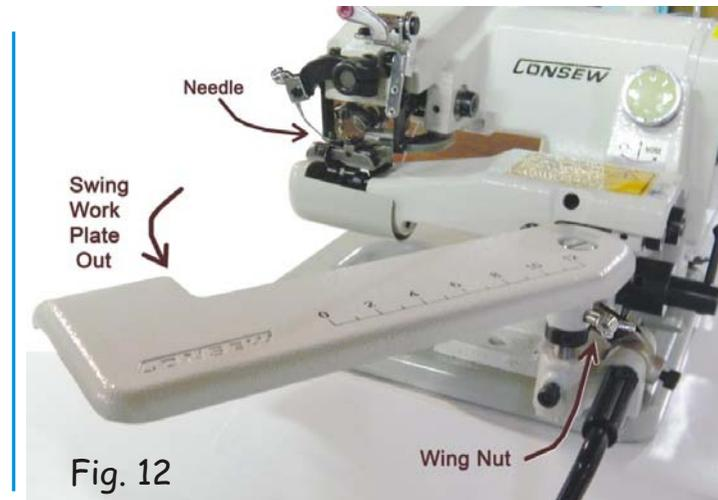

Fig. 12
TIP 1: It is easier to get to the eye of the needle (5) when the work-plate is pulled out of the way. Loosen the wing-nut below and to the right of the work-plate and put the work-plate towards you (Fig 12). Additionally, if you engage the knee-lifter, it will move the Cylinder Bed downward, giving you even more room.